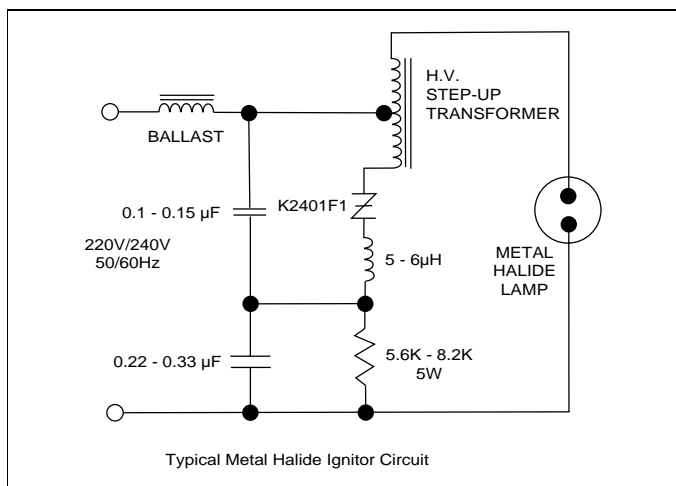

Figure 9.3 Typical Metal Halide Ignitor Circuit
- Teccor's new, improved series of sidacs is designed to ensure good commutation at higher switching frequencies as required in ignitor circuits for high intensity discharge (HID) lighting. A typical circuit for a metal halide lamp ignitor is shown in the schematic, Figure 9.3. With proper component selection this circuit will produce three pulses for ignition of Osram lamp types such as HQI-T70W, HQI-T150W, and HQI-T250W which require a minimum of three pulses at 4kV magnitude and  $>1\mu\text{s}$  duration each at a minimum repetition rate of 3.3kHz.